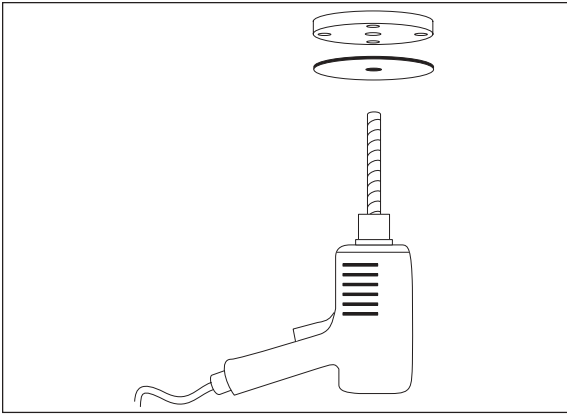

Figure 4
- b. Cut out circle "C" on template and place onto the lower spring seat with a dab of grease to hold in position. Center punch and drill a 1/2" hole (Figure 4).